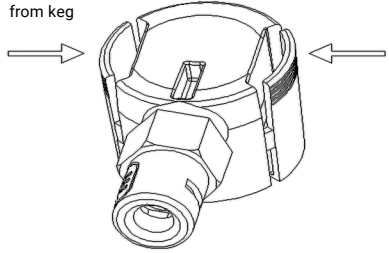

Fig.2
- To remove the adaptor squeeze side tabs to release (fig.2).